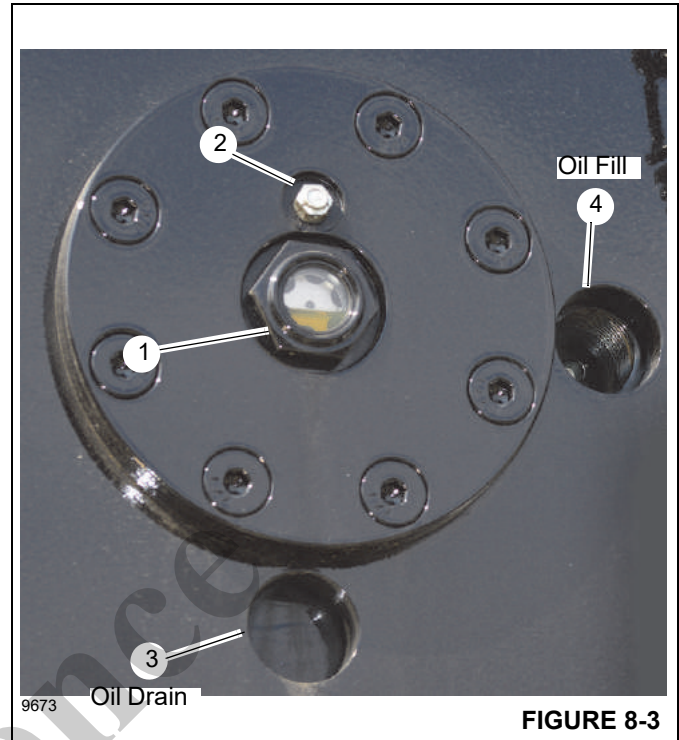
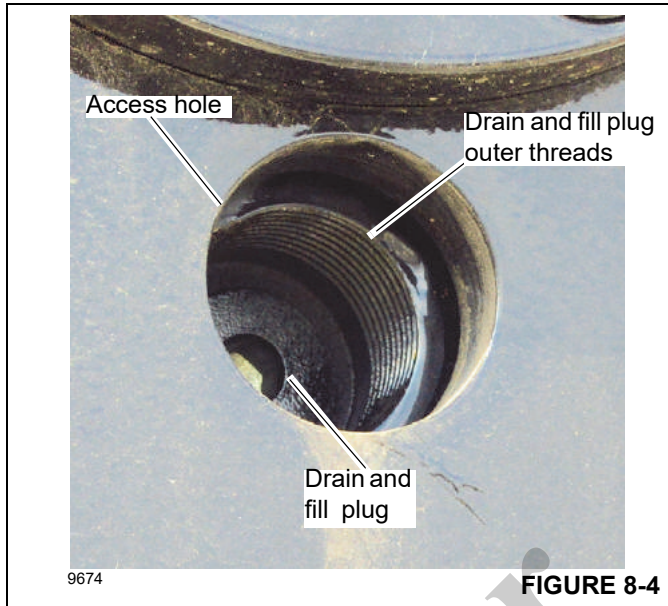

FIGURE 8-3
FIGURE 8-4
Check the oil level in the sight glass (1, Figure 8-3) on the hoist. When cool and not in operation, check the oil level in the sight glass. The oil should be approximately half-way up in the sight glass. The hoist gearbox and brake holds a maximum of 5.44 liters (11.5 pints) of oil.
The hoist oil drain and fill plug is located on the drum. The plug can be accessed through one of two access holes. The bottom (6 o'clock position) access hole (3, Figure 8-3) is used when draining the oil. The access hole on the side (3 o'clock position) is used when filling the hoist with oil (4).
1. Remove the vent plug (2, Figure 8-3). Clean with solvent as needed. Set aside for later use.
2. Rotate the hoist drum so the drain and fill plug (Figure 8-4) is aligned with the oil drain access hole at the 6 o'clock position (3, Figure 8-3).
3. Install a short 1 inch (25 mm) pipe in the outer threads around the drain and fill plug (Figure 8-4).
8. Coat the vent plug (2, Figure 8-3) threads with oil and install the vent plug.
1. Rotate the hoist drum so the plug aligns with the oil fill access hole at the 3 o'clock position (4, Figure 8-3).
2. Using a 5/16 inch (8 mm) Allen wrench, remove the drain and fill plug (Figure 8-4).
4. Visually inspect the oil level through the sight glass (1, Figure 8-3). When done filling, the oil level should be approximately half-way up in the sight glass.
5. Using a 5/16 inch (8 mm) Allen wrench, install and tighten the drain and fill plug (4, Figure 8-4). Torque the drain and fill plug to 67.8 Nm (50 ft-lb).